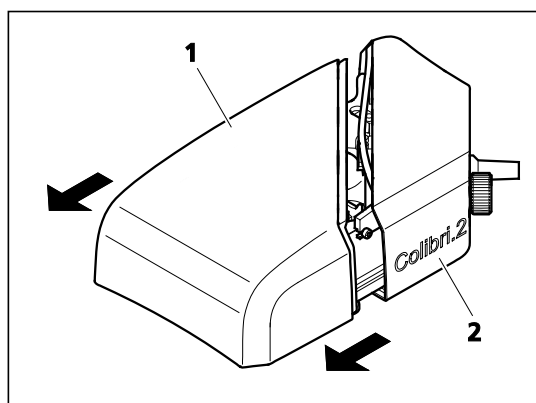

Fig. 5-2 Removing the upper part of the housing
- Pull off the upper part 1 of the housing (Fig. 5-2/1) upwards (the upper part 2 (Fig. 5-2/2) is firmly joined with the lower part and cannot be removed).